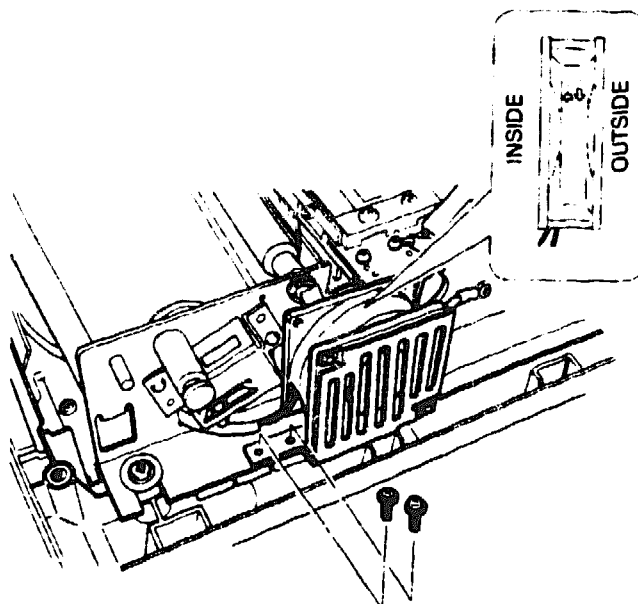

Figure 6-28 DC Fan (R) Installation
When replacing the DC fan (R), be sure to position the fan so the air flows inward as shown in Figure 6-28.